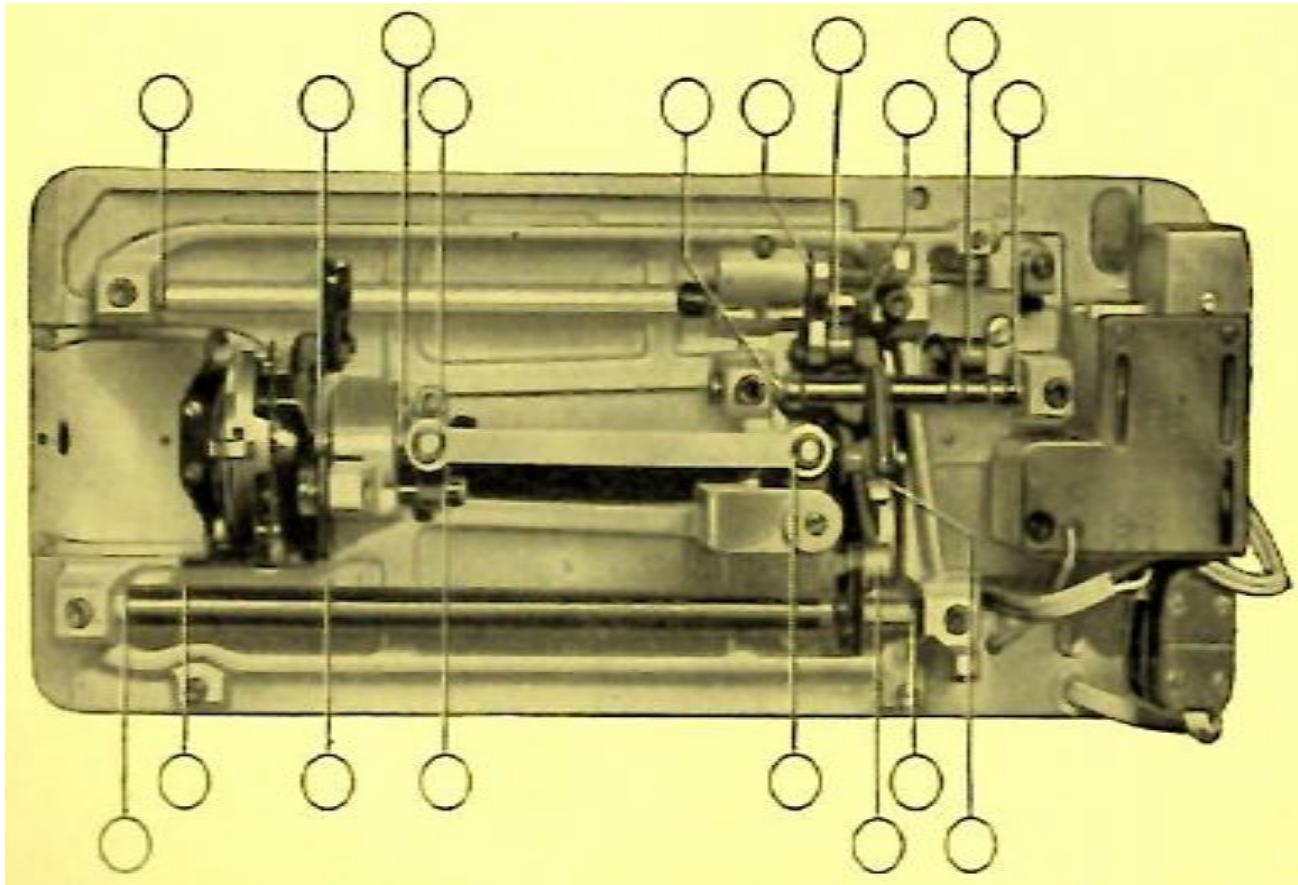

Figure 5
- c) Tilt the machine back on its hinges, so that the underside is accessible, and put a drop of oil into all oiling points indicated by pointers in Figure 5.